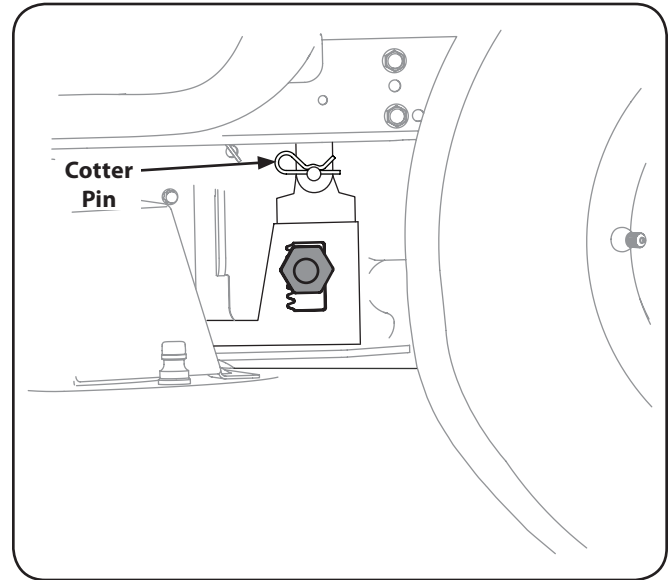

Figure 7-5
5. Pull the cotter pins out of the four deck lift adjustment brackets. See Fig. 7-5.